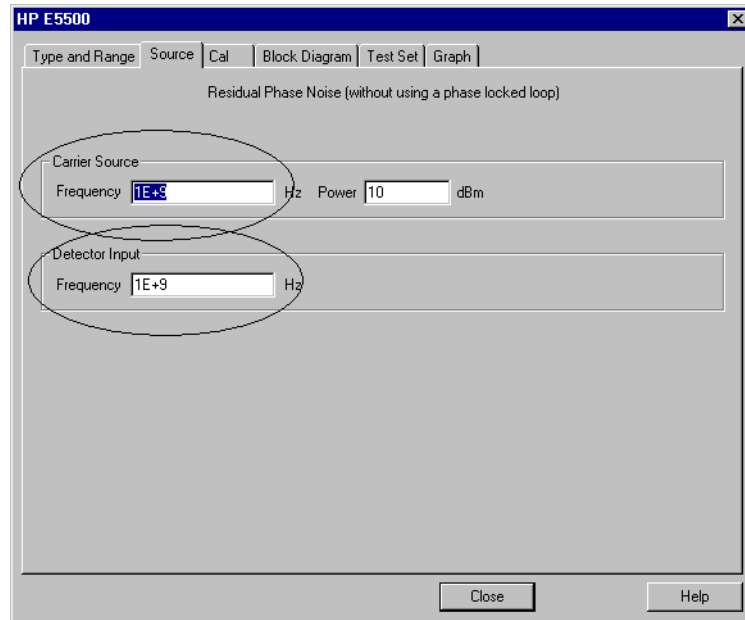

Figure 9-4 Enter Frequencies into Source Tab
- Enter the carrier (center) frequency of your UUT. Enter the same frequency for the detector input frequency. See Figure 9-4.